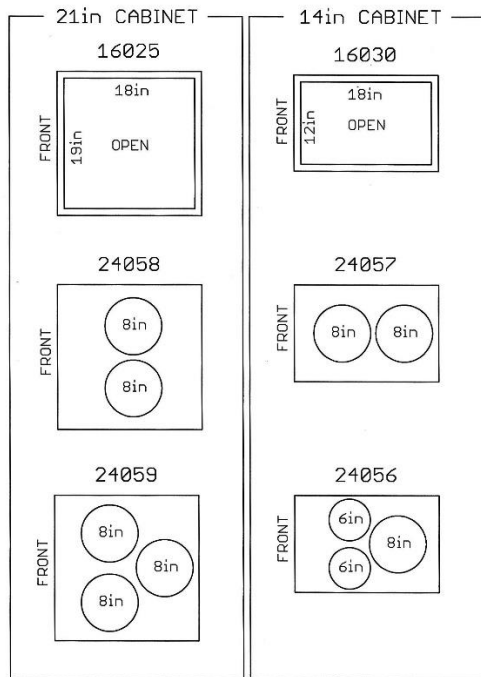

Figure 2 – Zonesmart multi-port top cover variations
When mounting the zone dampers directly on top of the ecosmart, the standard single hole supplied top cover is replaced by a multi-port 2 or 3-hole cover (see Figure 2 – Zonesmart available multi-port top cover variations).
- Dampers can be mounted to special top covers of Ecosmart air handlers or be remotely installed on take-off piping from the main plenum. Refer to Figure 2.
- top cover (refer to Figure 2 – Zonesmart multi-port top cover variations)